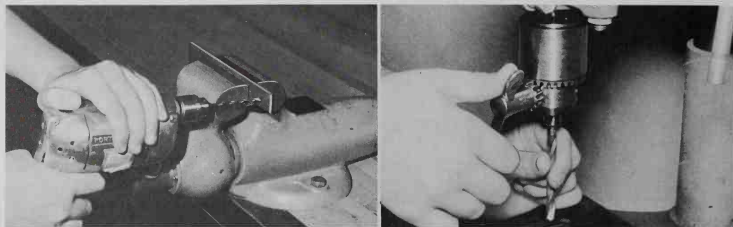

Fig. 4-50. Left. Using an electric hand drill. Fig. 4-51. Right. Inserting a drill in the drill press chuck.
4. Hold the drill with one hand and steady it with the other. Turn on the power and apply steady pressure, Fig. 4-50.